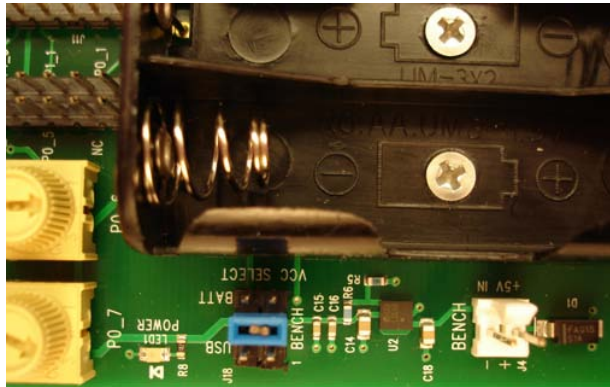

Figure 3-2. Jumper Set For Bench Supply
- As shown in Figure 3-2 below, the jumper is set for bench power supply (3.5 – 5VDC). Bench power supply may be connected to the white header (note positive and negative terminals).